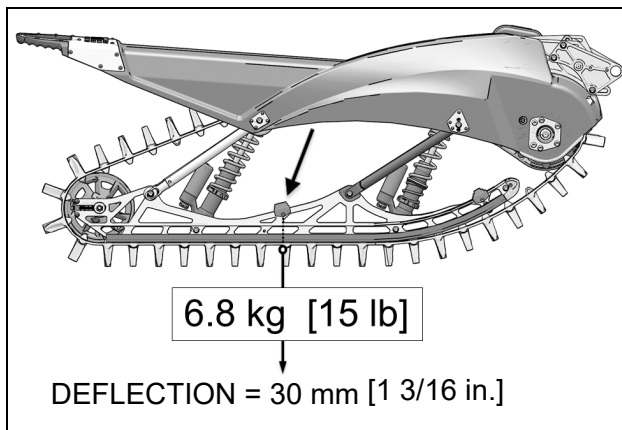

Figure 52
- The table below shows the force applied and the deflection which must/ occur when track tension is correctly set. Refer also to Figure 52.
- Check Track tension using as reference points the rubber bumpers located at mid-point between the two lower shock absorber mount shafts. See Figure 52.